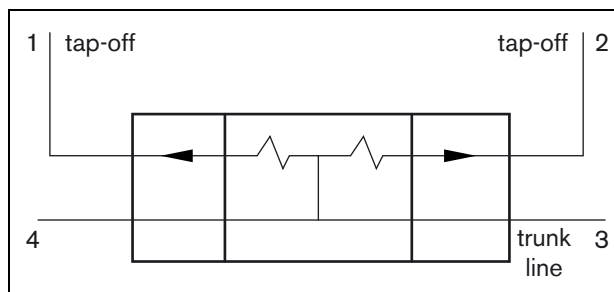

figure 11.2: Connecting the trunk cable splitter
- Looping the trunk through (see figure 11.2).
- Creating tap-offs (see figure 11.2).